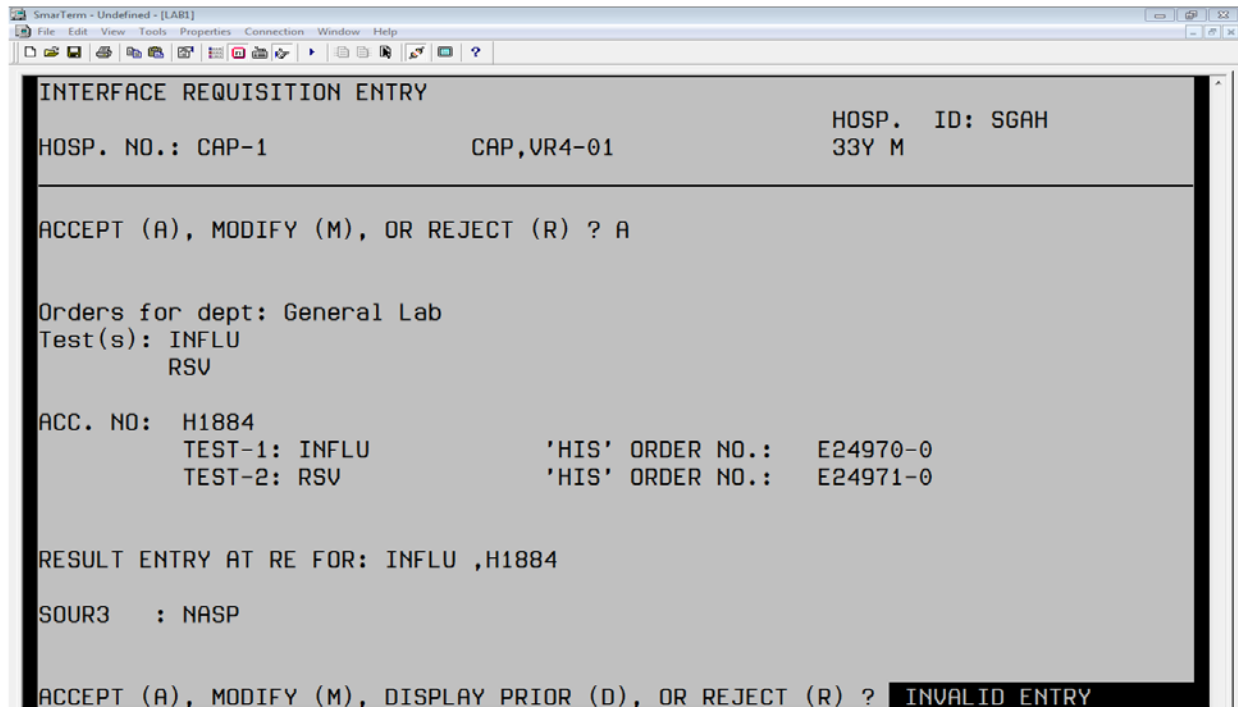

Figure 4: Request for source after completed order
9. Some tests may require entry of a specimen source (STYP). Enter a specimen source code, when prompted. (Figure 4: Request for source after completed order)